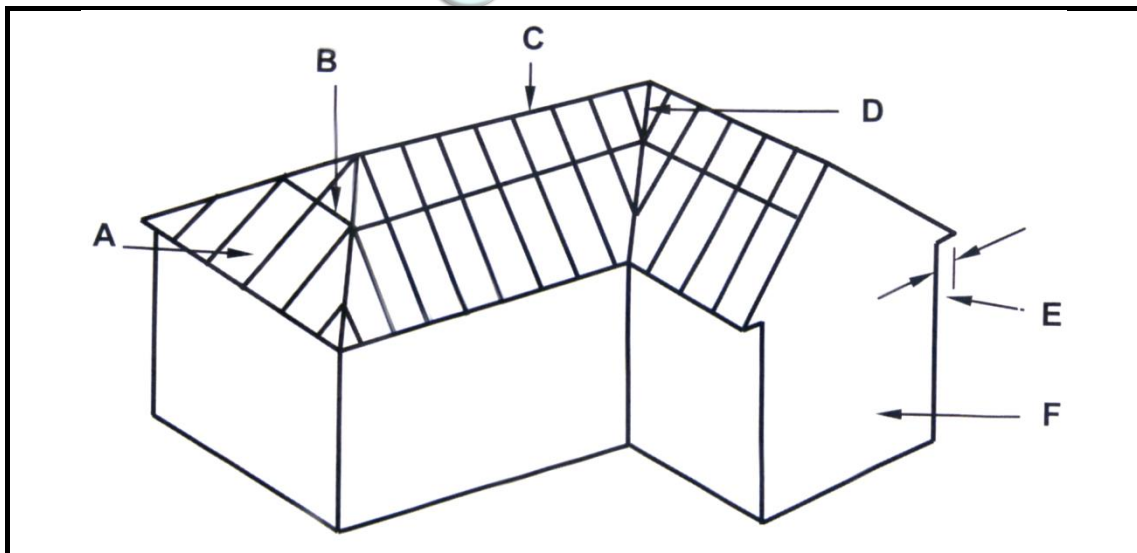

FIGURE 4.9
4.9 FIGURE 4.9 below shows a pictorial view of a roof with a hipped end and a gable end with valley. The roof will be covered with corrugated iron sheeting. Study FIGURE 4.9 and answer the questions that follow.